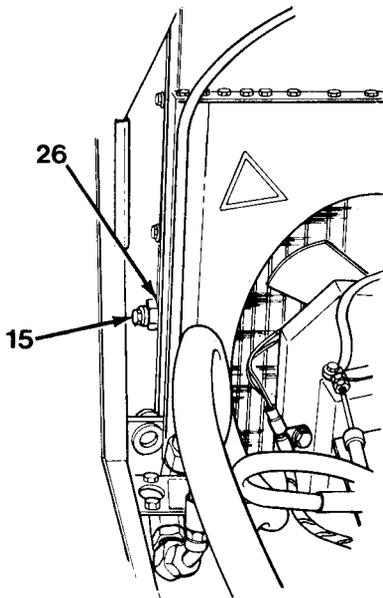
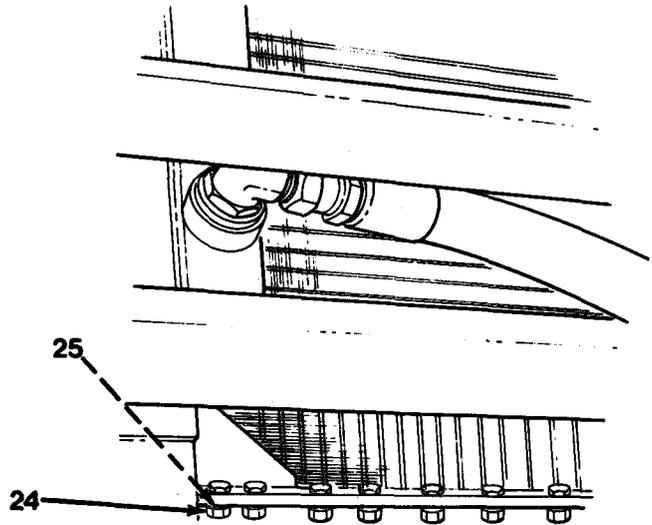

Figure 9-10
Figure 9-9
2. Install two capscrews (15) into radiator and oil cooler assembly (26, Figure 9-10). Using suitable hoist and sling on two capscrews (15), carefully position radiator and cooler assembly in frame.
3. Install two spacers (25) and nuts (24, Figure 9-9) to studs on bottom of radiator. Remove sling and two capscrews (15) from radiator and oil cook assembly (26, Figure 9-10).